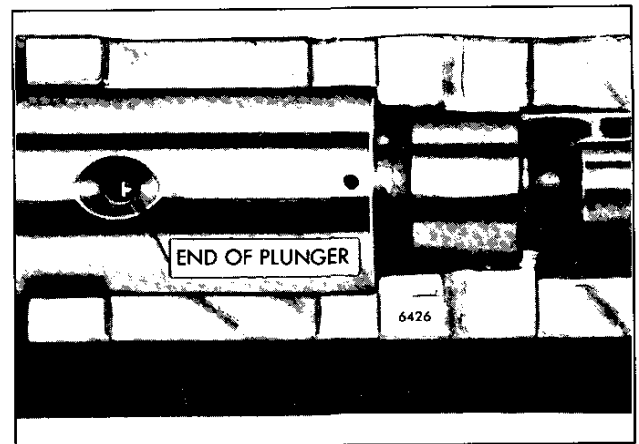

Fig. 16 - End of Plunger Shown in Port
7. Hold the plunger against the micrometer and rotate the carriage adjustment screw until the plunger almost closes the port (Fig. 16).